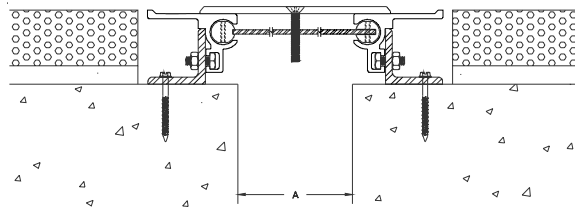

Figure 8
**STEP 12.** Pour the topping slab or install the pavers in accordance with the manufacturer's instructions and good industry practice (see Figure 8).